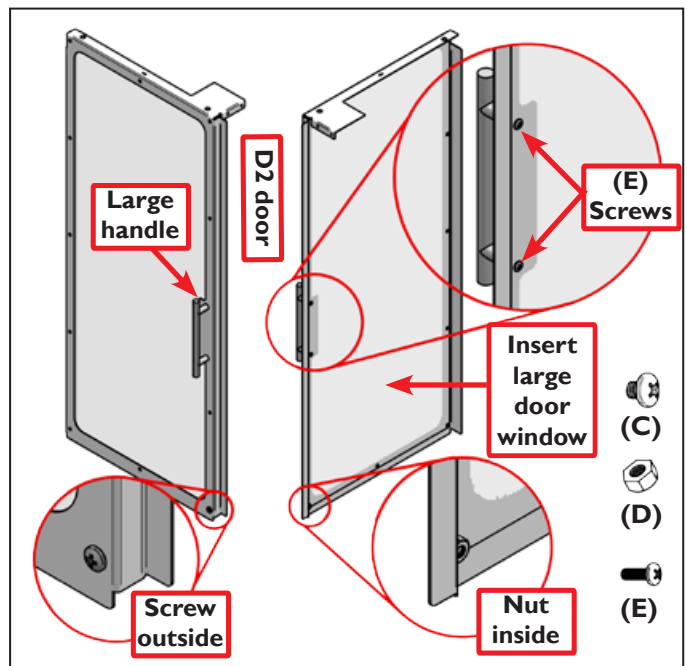

Figure 24
63. Place one Large Door Window (E.12;Tormach PN 34948) inside the D2 Door Frame (E.6) and fasten with (C) screws and (D) nuts as seen in **Figure 24**.